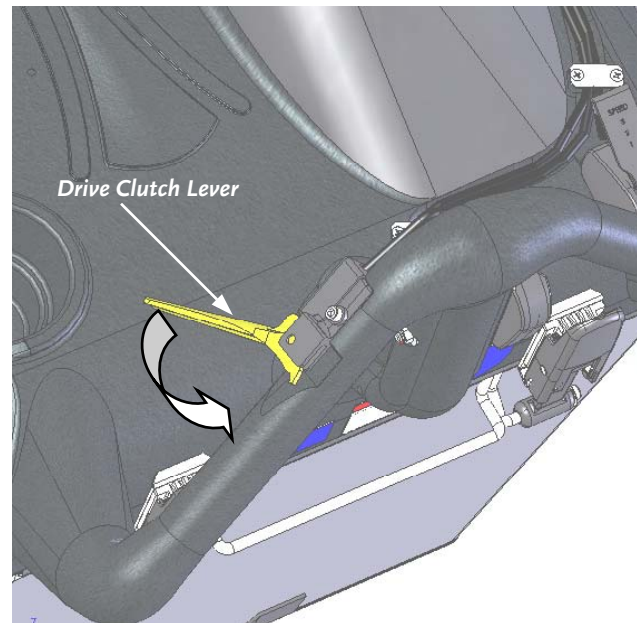

Figure 13
2. Squeeze the Drive Clutch Lever (**Figure 13**) against the Handlebar to engage the Wheel Drive.